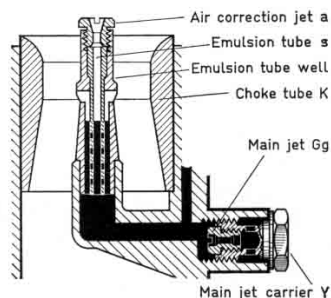

Fig. 25 Assembly No. 21
c) Jet Assembly No. 21 (fig. 25)